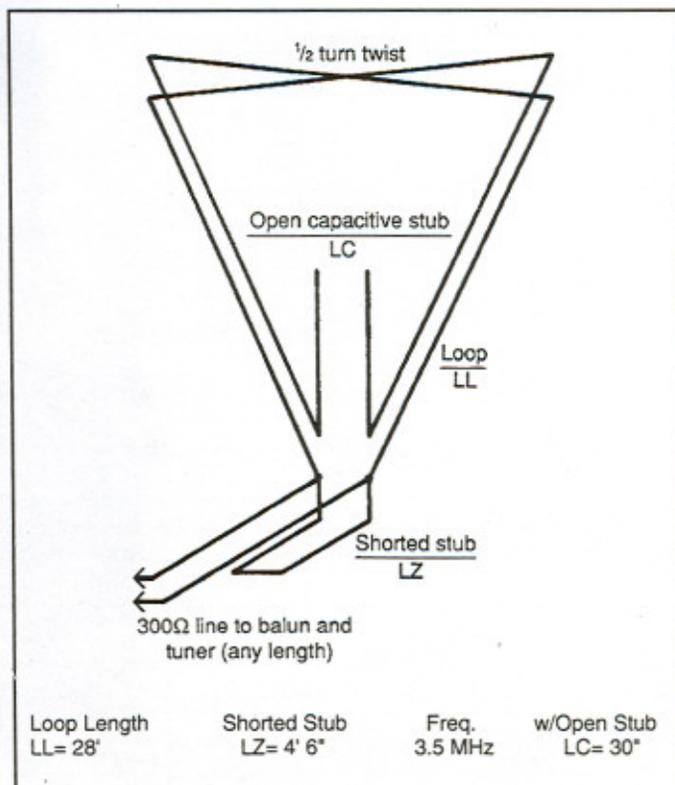

Fig. 1- The 80 meter DCTL dimensions.
The DCTL is a 28 foot delta loop fed at the bottom apex. The impedance is matched with a shorted hairpin stub, and the resonant frequency is tuned with an open stub. The whole antenna system, including the feedline, is made from 300 ohm twin lead. To complete your understanding of the DCTL, however, you'll probably need to look at fig. 1. Notice the
If you refer to fig. 1 and follow these simple steps, you'll have an antenna in about an hour. Use Radio Shack 15-1153 twin lead or the Antennas West Kit listed at the end of the article to make each section.
7. Now, with the 28 ft. loop (LL), locate the wires on opposite ends of the twin lead that **DO NOT** connect to each other. This is critical and is best done with an ohmmeter looking for an open circuit (see fig. 1). Then label as **lead-in**. The other two opposing loop wires connect to the capacitive stub (LC).
8. With the 4 ft. 6 in. hairpin (LZ), short the two wires at one end together, solder, and cover with 1/4 in. shrink tubing.
11. Solder and heat shrink each connection per fig. 1. **DO NOT** put any two connections close together by taping or by using another piece of shrink tubing. This will cause excessive heating.